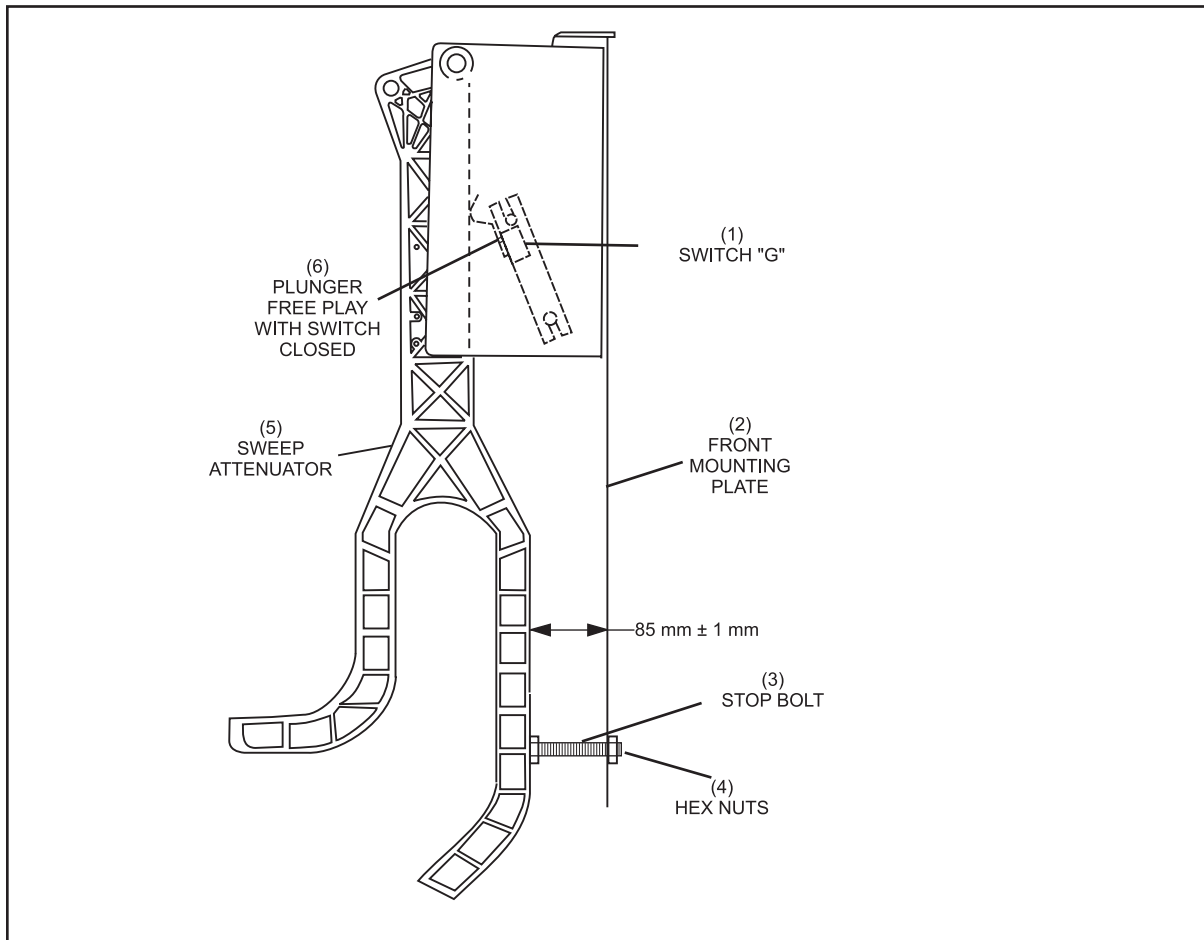

Figure 5-50. Sweep Attenuator/Switch "G" Adjustment
2. Adjust the "G" switch with the attenuator down. The switch's plunger must have free play with the switch closed. Refer to *Figure 5-50*.